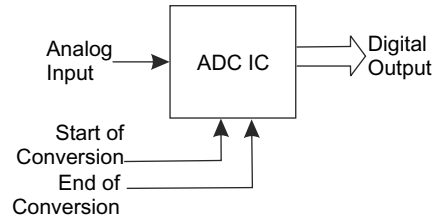

Fig. 9.47 Schematic diagram of ADC
The simplified configuration of an ADC IC is shown in Fig. 9.47. The IC performs analog to digital conversion by using — Start of Conversion (SC), End of Conversion (EOC) and output enable signals. Commonly available ADC ICs are single channel 8-bit A/D converter ADC0800, eight channels 8-bit A/D converter ADC0808/0809, twelve channels 8-bit A/D converter ADC0816/0817, 12-bit A/D converter ADC80.